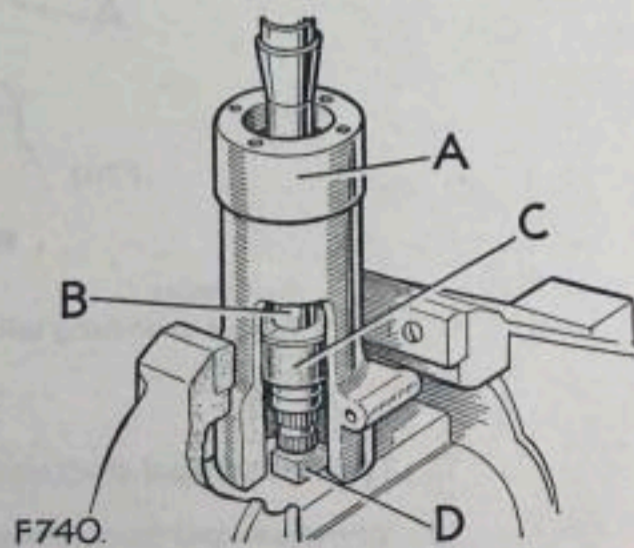

Fig. 4. Housing, shaft and block in position
6. Secure housing and shaft in vice with a $\frac{3}{4}$ in. (19 mm) block under bottom end of shaft. See Fig. 4.